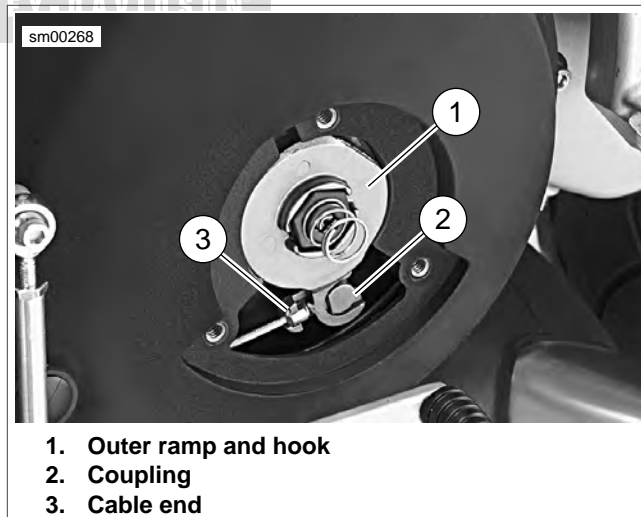

Figure 5-2. Clutch Release Mechanism (Typical)
11. See Figure 5-2. Remove the outer ramp and hook (1) from the cable end (3) and coupling (2). Remove cable end from slot in coupling. See 5.4 CLUTCH RELEASE MECHANISM.